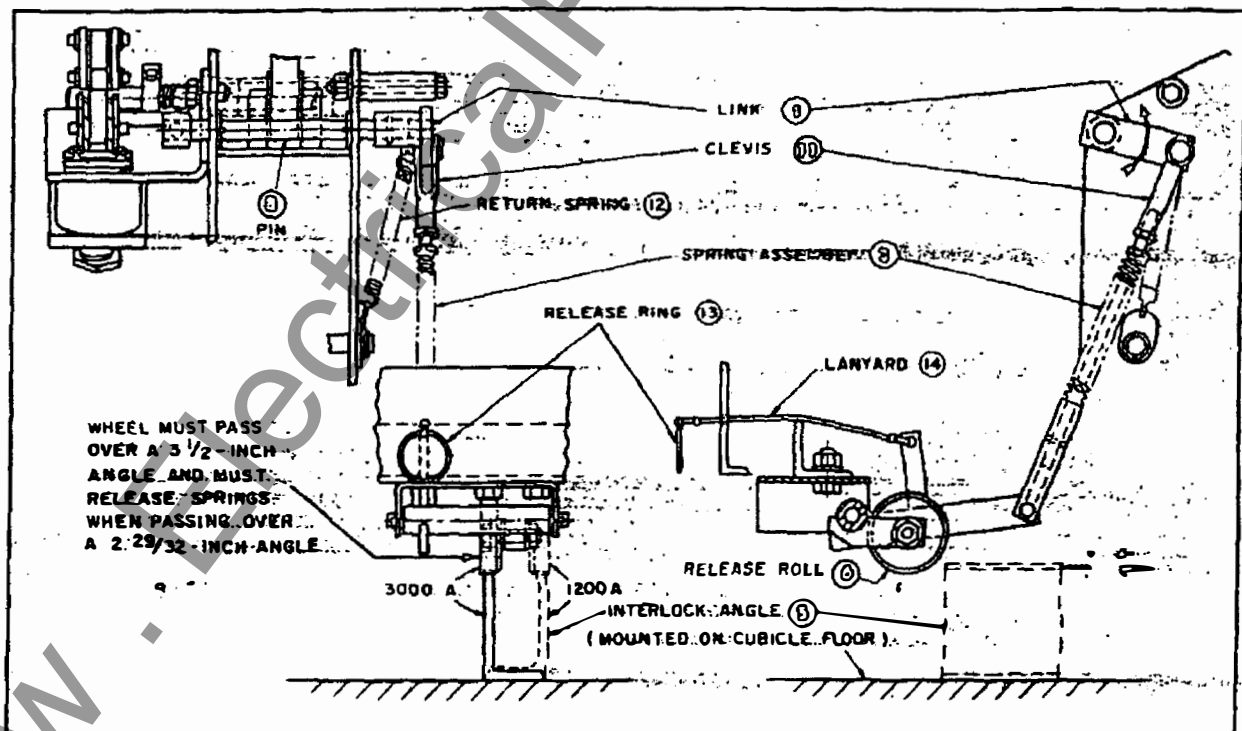

Figure 21. - Spring Release Arrangement, Type SE-3 Stored Energy Operator.
**Spring Discharge (Figure 21)** — During insertion or removal of the breaker from its cubicle, the closing springs of the operator will discharge automatically. This is done by release roll (6) passing over interlock angle (5), mounted on the cubicle floor. As the release roll passes over the inter-